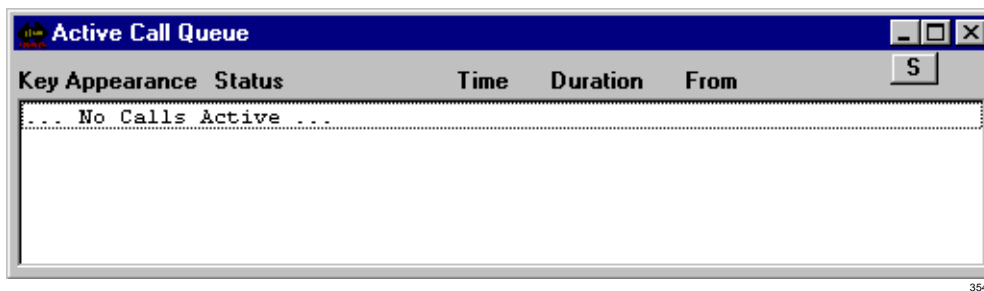

Figure 13-16 Active Call Screen
- ◆ Show Calls displays the Active Call Queue window (see Figure 13-16), which can be kept open while other activities and functions are performed.